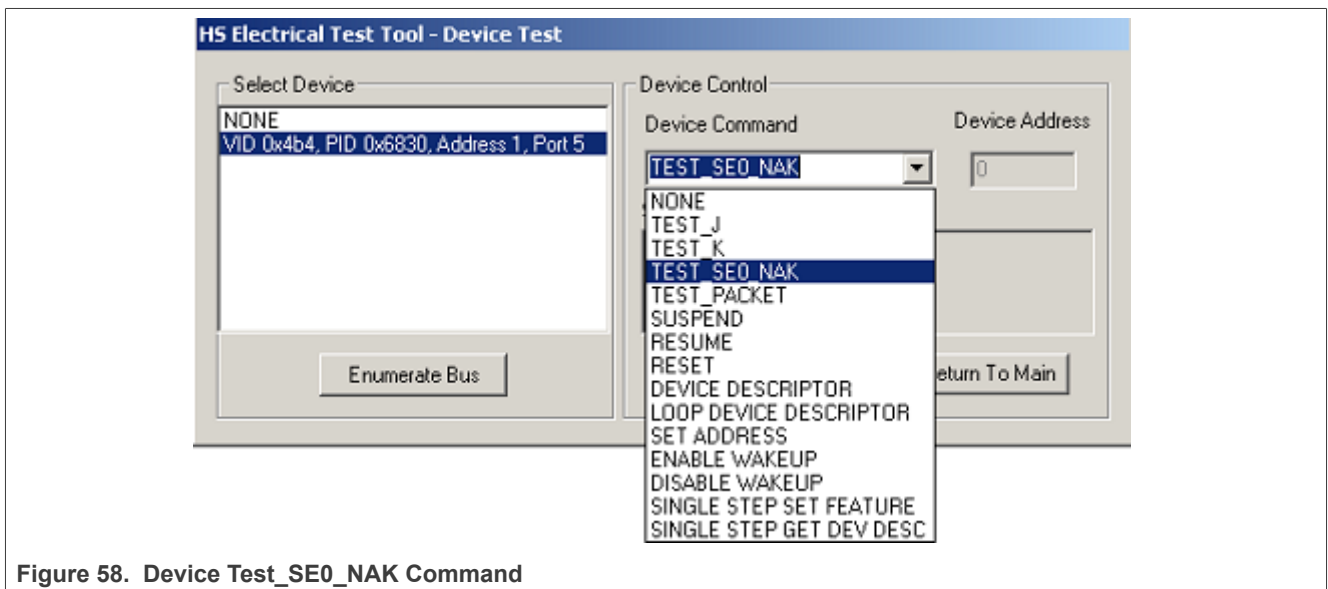

Figure 58. Device Test\_SE0\_NAK Command
10. Verify that all packets from the data generator are **NAK** 'd by the port under test as shown in Figure 58 below. Record the Pass/Fail in **EL\_18**.